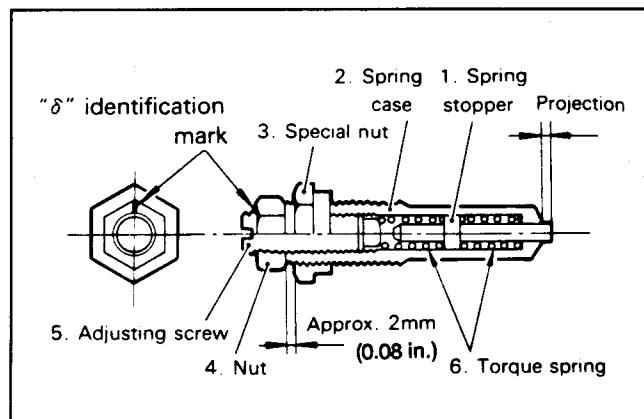

Figure 54
1. Assemble the torque spring set as shown in Figure 54. Use the adjusting screw to adjust the projection of the torque spring stopper from the spring case.